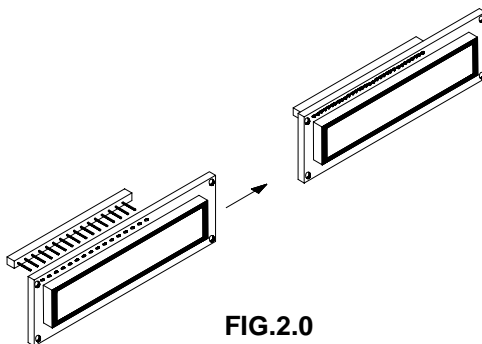

FIG.2.0
- ❑ Mount the 16 pole female connector. (see fig. 2.0)